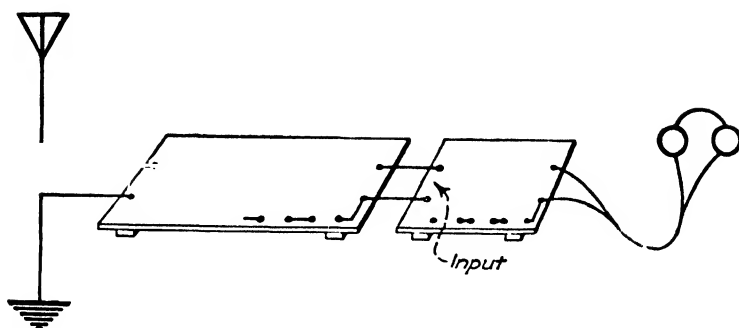

FIG. 222. Step 1, connect the wires between the detector output and the amplifier input posts.
Step 1. Attach wires between the output, or earphone, posts on the detector set board to the input posts on the amplifier board (see Fig. 222).